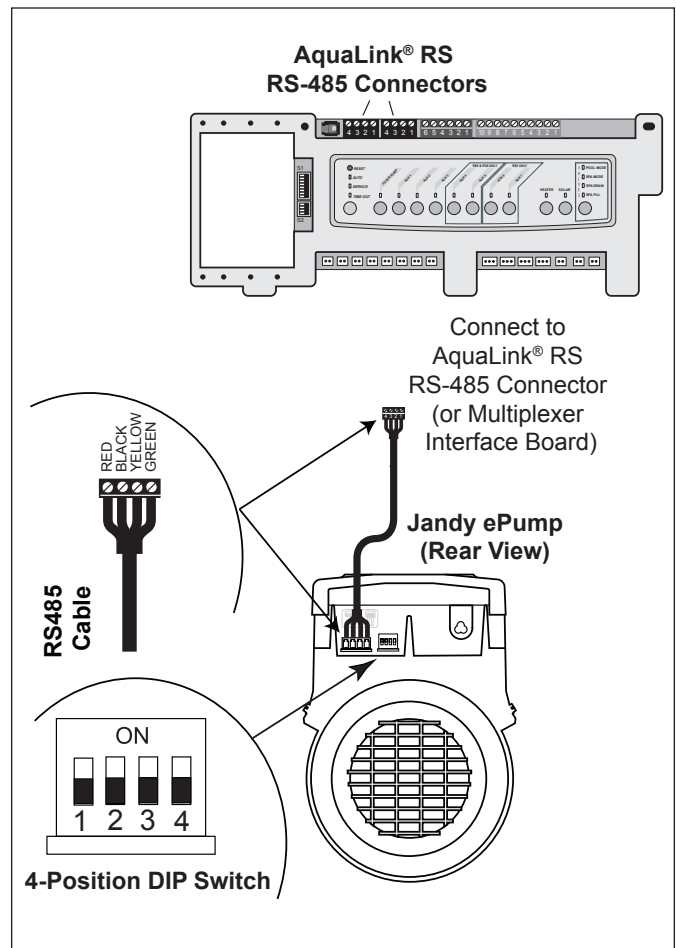

Figure 3. Wiring AquaLink® RS Controller or AquaLink® PDA to ePump
3. Unplug the RS-485 connector from the ePump and attach the four (4) wires in the RS-485 cable to the RS-485 connector. Match the wire colors with the connector positions as follows: 1-red, 2-black, 3-yellow, and 4-green. See Figure 3.
6. Slide dip switches 1 and 2 down, so they are in the OFF position. See Figure 3.